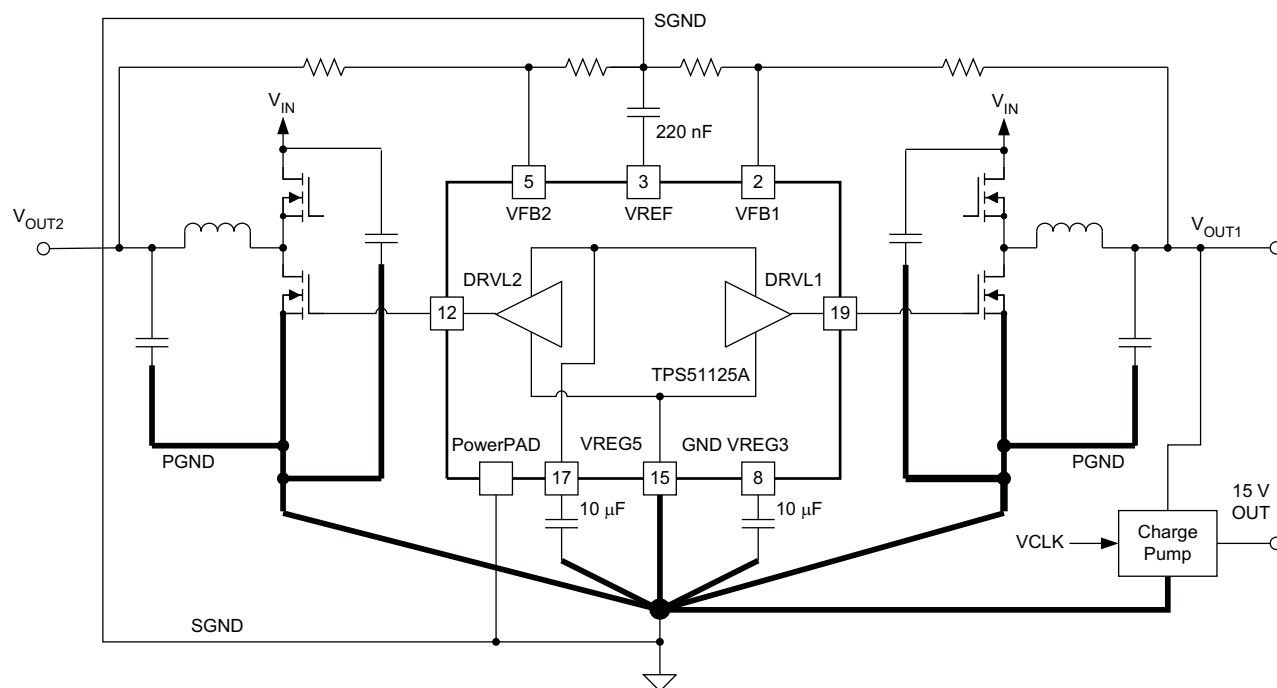

Figure 40. GND system of DC/DC converter using the TPS51125A
- TPS51125A has only one GND pin and special care of GND trace design makes operation stable, especially when both channels operate. Group GND terminals of output voltage divider of both channels and the VREF capacitor as close as possible, connect them to an inner GND plane with PowerPad, overcurrent setting resistor and EN0 pull-down resistor as shown in the thin GND line of Figure 40. This trace is named Signal Ground (SGND). Group ground terminals of VIN capacitor(s), VOUT capacitor(s) and source of low-side MOSFETs as close as possible, and connect them to another GND plane with GND pin of the device, GND terminal of VREG3 and VREG5 capacitors and 15-V charge-pump circuit as shown in the bold GND line of Figure 40. This trace is named Power Ground (PGND). SGND should be connected to PGND at the middle point between ground terminal of VOUT capacitors.